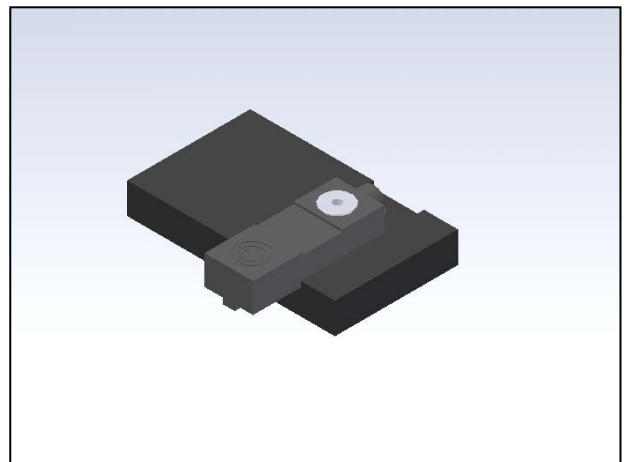

Figure 3-368. Sensor Mounting Block
4. Remove the sensor mounting screw from the block, and install the new sensor in the orientation shown in Figure 3-368.